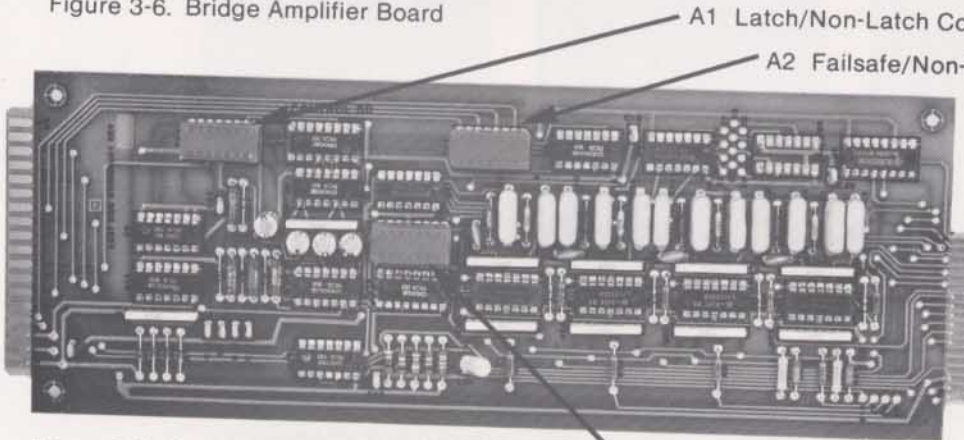

Figure 3-7. Control Circuit Board
4. Check that the plug-in modules are the correct type for the logic options wanted on Channels 1 through 4. (See Figure 3-7 and Table 3-4.)